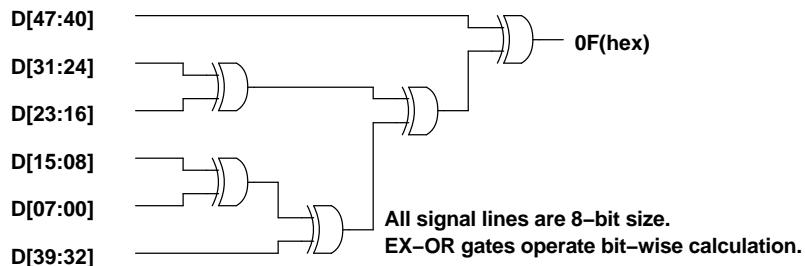
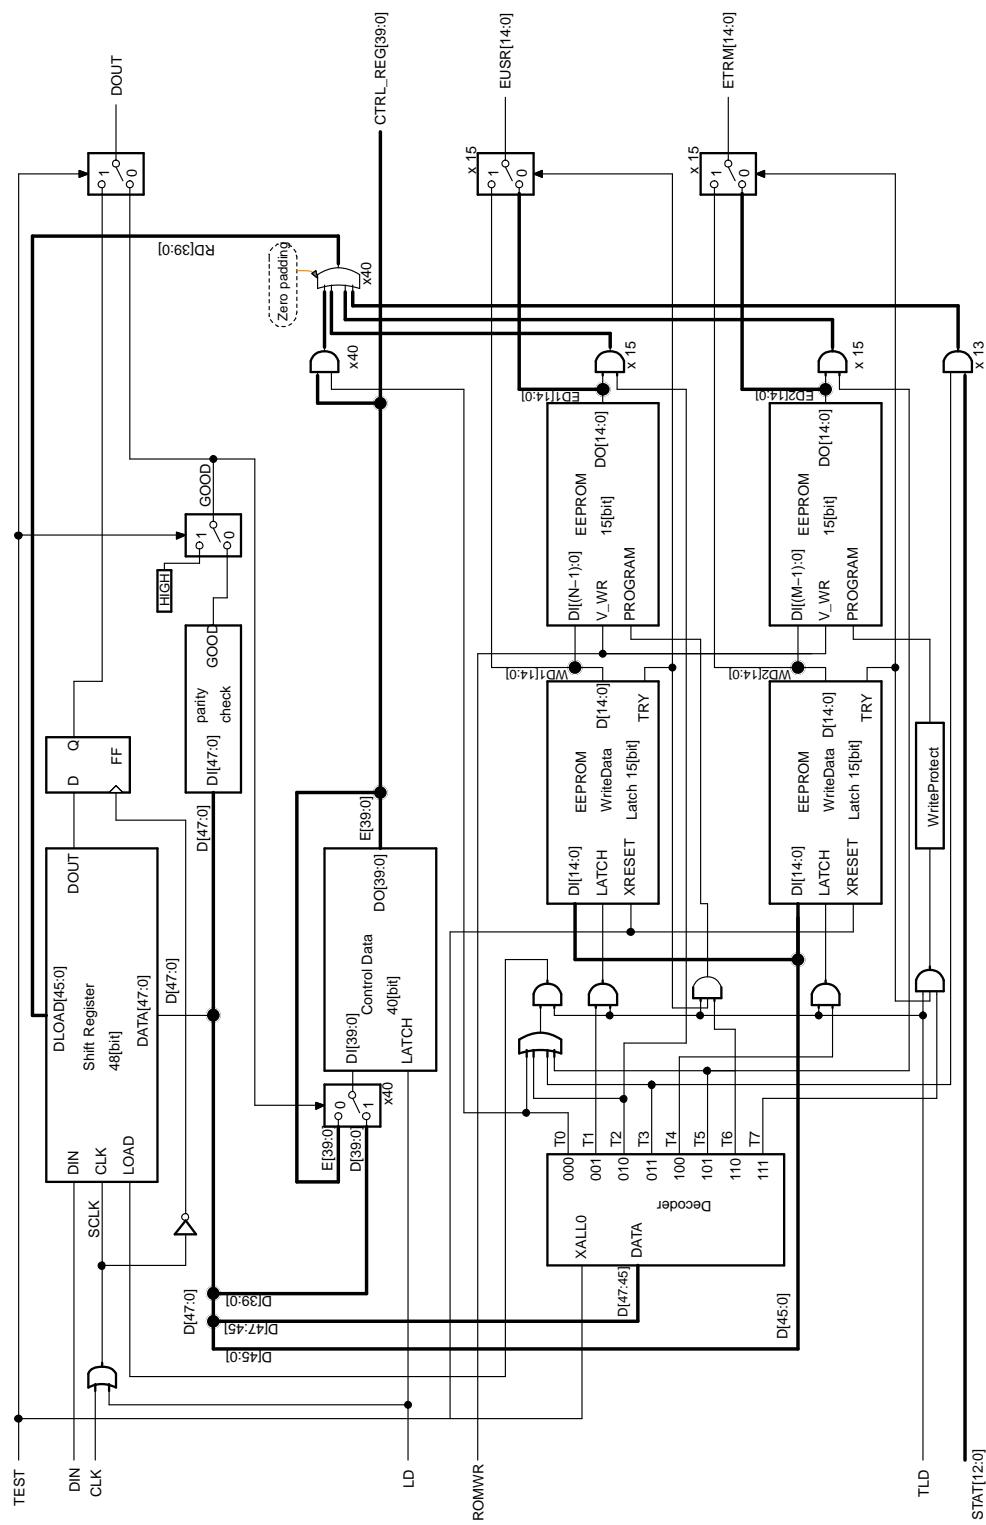

Figure 31. Configuration for Parity Bit Calculation
Figure 34. Serial Interface Block Diagram
Figure 34 shows the overall block configuration. In the figure, the 48-bit Shift Register block accepts D[47] (MSB) last in the time sequence. Figure 31 shows the configuration of the parity judgment circuit.
- Tests 0 to 7 require explicit mode switching using the Decoder shown in Figure 34. The Decoder uses the three high-order bits in the shift register to change the mode. Table 8 shows the bit assignment.